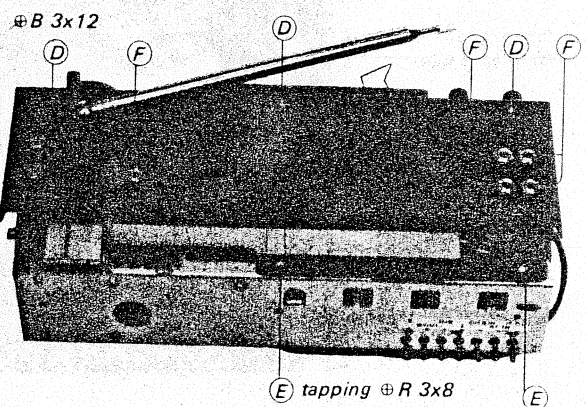

Fig. 2-2
2. Remove the three screws ($\oplus B 3 \times 12$) marked (D), and the two tapping screws ($\oplus R 3 \times 8$) marked (E) in Fig. 2-2.
3. Remove the five jack nuts marked (F) in Fig. 2-2.
4. Remove the rear cabinet in the direction shown by the arrow in Fig. 2-2.